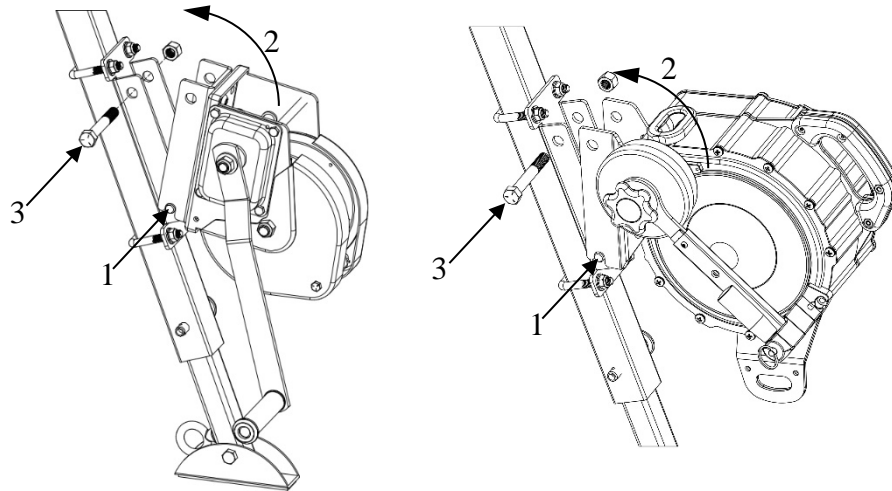

Figure 7
Figure 7 – Attaching an Accessory	8
5. Mount the Reliance compatible accessories, (Figure 7)(Note: All Reliance approved compatible accessories will mount in the same manner, 4502-1 and 4120050-2 shown). Slide the slot in the accessory bracket over the studs on the mounting bracket (1). Rotate the accessory until the open holes in the accessory bracket match the holes in the mounting bracket (2). Insert the provided bolt through both sides and tighten the locknut until it is snug to bracket. (3).